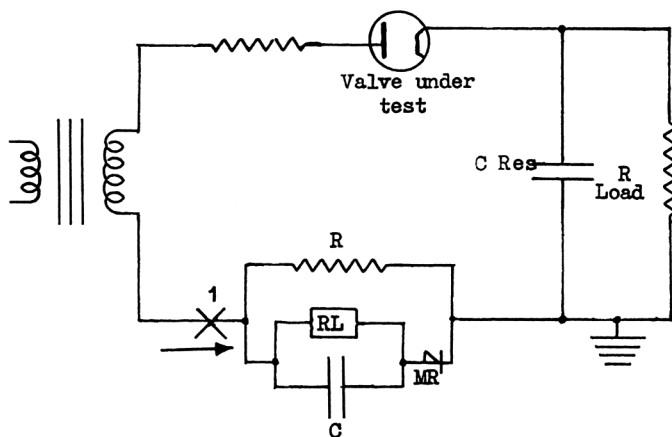

FIG 3
3. To be carried out in test rig with circuit as in Figure 3, with the following component values: PFN 1 μ sec., 80 ohms., "Normal" load = 62 ohms \pm 5%, "Fault" load 35 ohms \pm 5%, Diode load = 620 ohms \pm 5%, PRF = 1000 c/s. P.I.V. = 14 kV. Fault condition switched in for two seconds every thirty minutes.